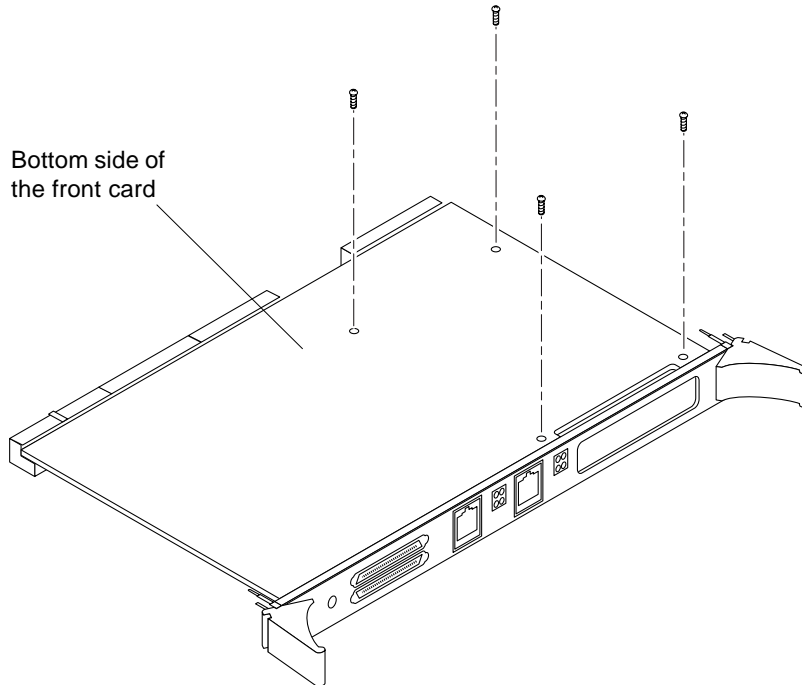

FIGURE 4-3 Removing the PMC Screws
2. Remove the four screws holding the PMC from the bottom side of the front card (FIGURE 4-3).